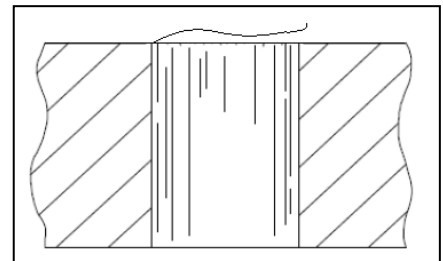

Figure 3 Whisker Burr
a. Whisker Burr (see Figure 3):